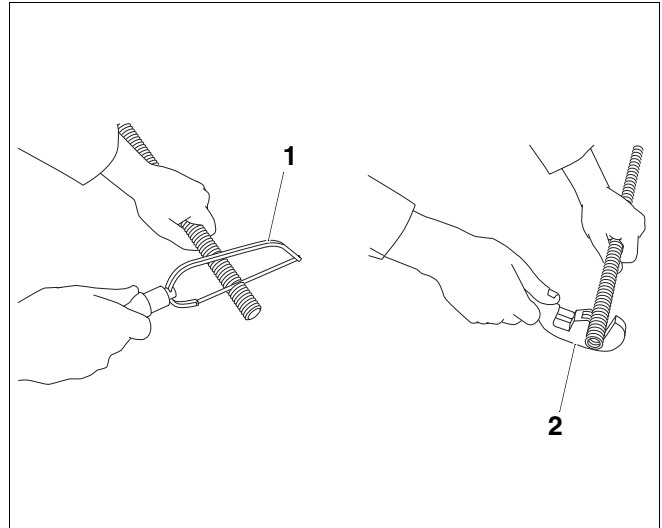

Fig. 1 Cutting to length
- Make a square cut through the valley of the corrugated stainless steel pipe using a metal saw or a pipe cutter (Fig. 1, **item 1** and **2**).